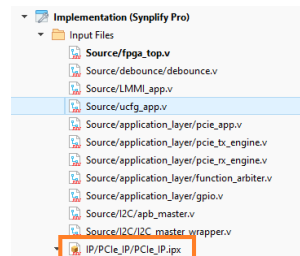

Figure 7.2. Open PClex4 IP
3. Click **Open** the `PCIe_IP` as shown in Figure 7.2.